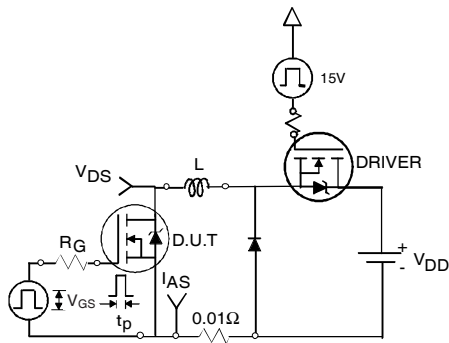

Fig 12a. Unclamped Inductive Test Circuit
- ③ Pulse width $\leq 1.0ms$; duty cycle $\leq 2\%$.
- ④ $C_{oss\ eff.}$ is a fixed capacitance that gives the same charging time as C_{oss} while V_{DS} is rising from 0 to 80% V_{DSS} .
- ⑤ Limited by T_{Jmax} ; see Fig.12a, 12b, 15, 16 for typical repetitive avalanche performance.
- ⑥ This value determined from sample failure population. 100% tested to this value in production.
- ⑦ This is applied to D²Pak, when mounted on 1" square PCB (FR-4 or G-10 Material). For recommended footprint and soldering techniques refer to application note #AN-994.
- ⑧ R_θ is measured at T_J of approximately 90°C .
3. Equation below based on circuit and waveforms shown in Figures 12a, 12b.